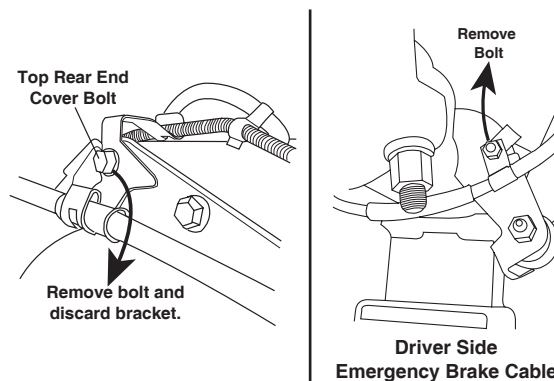

Figure 4
4. Remove the bolts securing the brake cables to the rear end (Figure 4).